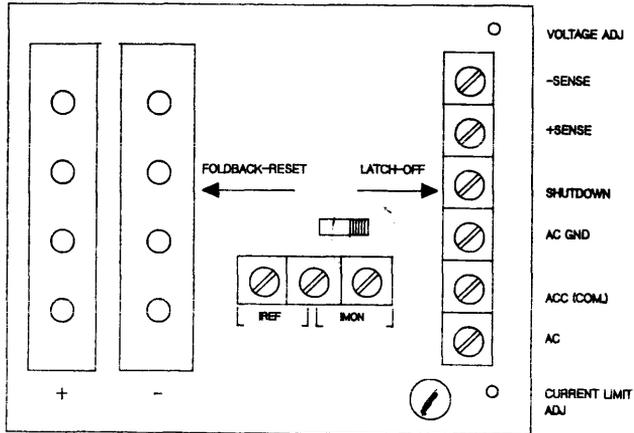

Figure 6-4. Rear View Of Power Supply (HP 32460A)
4. Disconnect BOTH sense leads from both supplies. (See Figure 6-4.)
- a. Place the voltmeter leads across the IREF terminals located on the rear of power supply no. 2. (See Figure 6-4.)
- c. Adjust power supply no. 2 to -5.30 volts. See Figure 6-4 for location of power supply voltage adjustment pot. Since the most positive supply will determine the bus voltage, if no. 3 is set at a more positive level you will be unable to achieve this; therefore, you may have to adjust no. 3 higher (more negative) than no. 2 and then adjust no. 2.
- a. Place the voltmeter leads across the IREF terminals located on the rear of power supply no. 6. (See Figure 6-4.)
- c. Adjust power supply no. 7 to +4.95 volts. See Figure 6-4 for location of PS voltage adjust pot. Since the most positive supply will determine the bus voltage, if no. 6 is set at a more positive level you will be unable to achieve this; therefore, you may have to adjust no. 6 lower (less positive) than no. 7 and then adjust no. 7.
- a. Place the voltmeter leads across the IREF terminals located on the rear of the power supply. (See Figure 6-4.)
- a. Place the voltmeter leads on the appropriate sense leads according to which supplies are going to be adjusted. See Figure 6-6 for the location of sense leads and Figure 6-4 for location of voltage adjust pot.